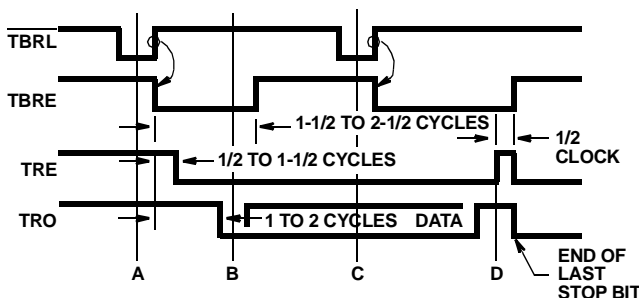

FIGURE 3. TRANSMITTER TIMING WAVEFORMS
Transmitter timing is shown in Figure 3. (A) Data is loaded into the transmitter buffer register from the inputs TBR1 through TBR8 by a logic low on the TBRL input. Valid data must be present at least  $t_{DT}$  prior to, and  $t_{TD}$  following, the rising edge of TBRL. If words less than 8-bits are used, only the least significant bits are used. The character is right justified into the least significant bit, TBR1. (B) The rising edge of TBRL clears TBRE. 1/2 to 11/2 cycles later, depending on when the TBRL pulse occurs with respect to TRC, data is transferred to the transmitter register and TRE is cleared. TBRE is set to a logic High one cycle after that. (C) A second pulse on TBRL loads data into the transmitter buffer register. Data transfer to the transmitter register is delayed until transmission of the current character is complete. (D) Data is automatically transferred to the transmitter register and transmission of that character begins.